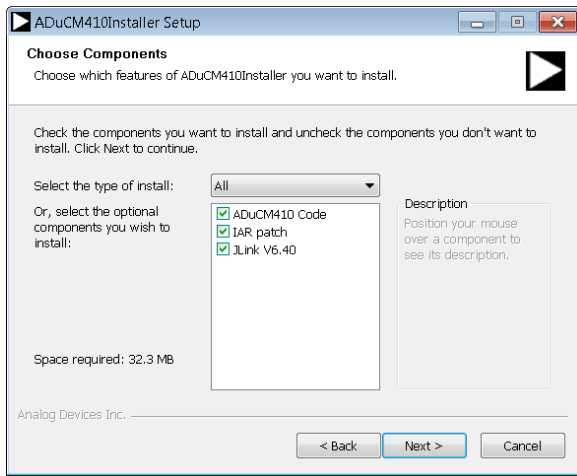

Figure 3. Installation Options
2. After downloading the ADuCM410 installer from [ftp://ftp.analog.com/pub/microconverter/ADuCM410](http://ftp.analog.com/pub/microconverter/ADuCM410), double click **ADuCM410Installer-V0.1.0.0.exe** and follow the instructions shown in Figure 3. The **ADuCM410-Installer Setup** window displays the installation method and component selection as shown in Figure 3. The end user license agreement (EULA) is displayed after proceeding through the **ADuCM410Installer Setup** window. Accepting the EULA extracts the installer, and rejecting the EULA cancels the installer.